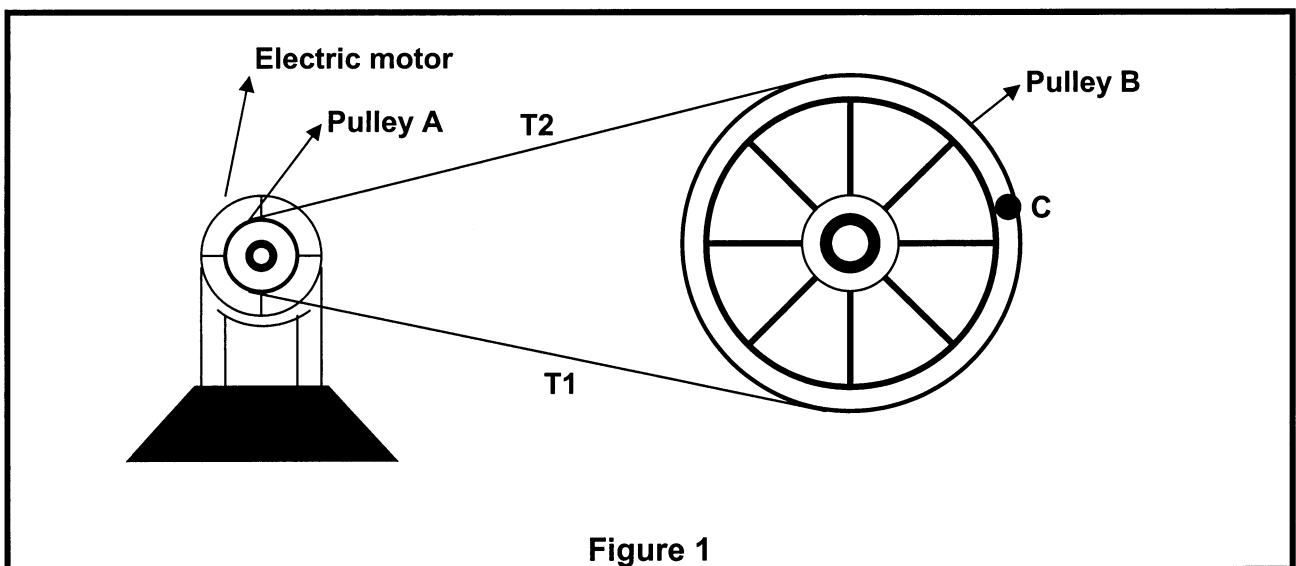

Figure 1
3.4 Study **Figure 1** and answer the questions that follow.